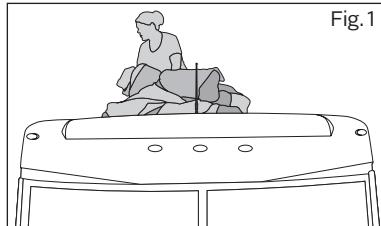
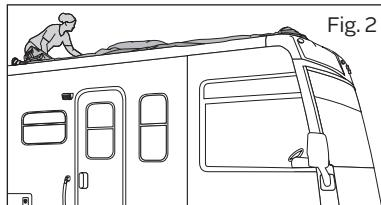

Fig.1
Fig.2
3. Carefully climb up on the roof and take your cover out of its storage bag (Fig. 1). Place the rolled-up cover at the front center of the roof and unroll down the center of the RV toward the back (Fig. 2).